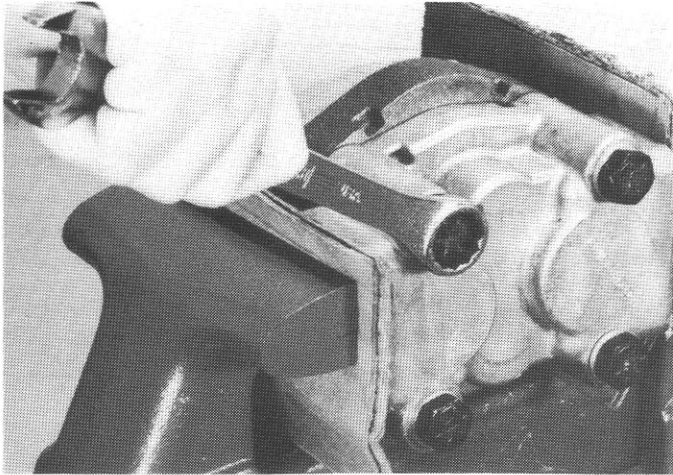

Fig. 23
27. Coat capscrew (14) threads with clean hydraulic oil. Install washers (13) on capscrews and screw them in and torque to 80 ft. lbs. (Fig. 23)